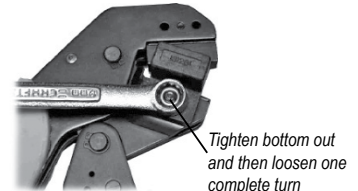

Figure 7
4. Place the locator, wavy washer and nut on the screw; in that order. (See Figure 7 & Figure 9)